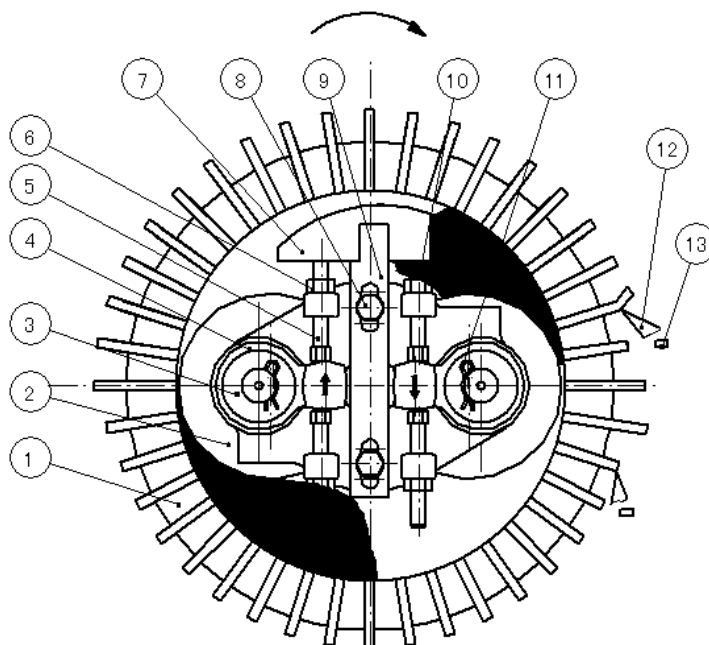

Figure 6 PELLET CHAMBER WORKING PRINCIPLE
4.2.1 Adjustment of die-roller clearance (see Figure 6)